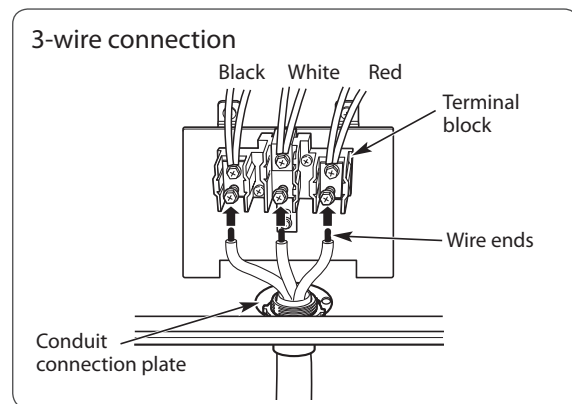

FIGURE 11
1. Loosen the lower 3 screws from the terminal block. Refer to Figure 11.)